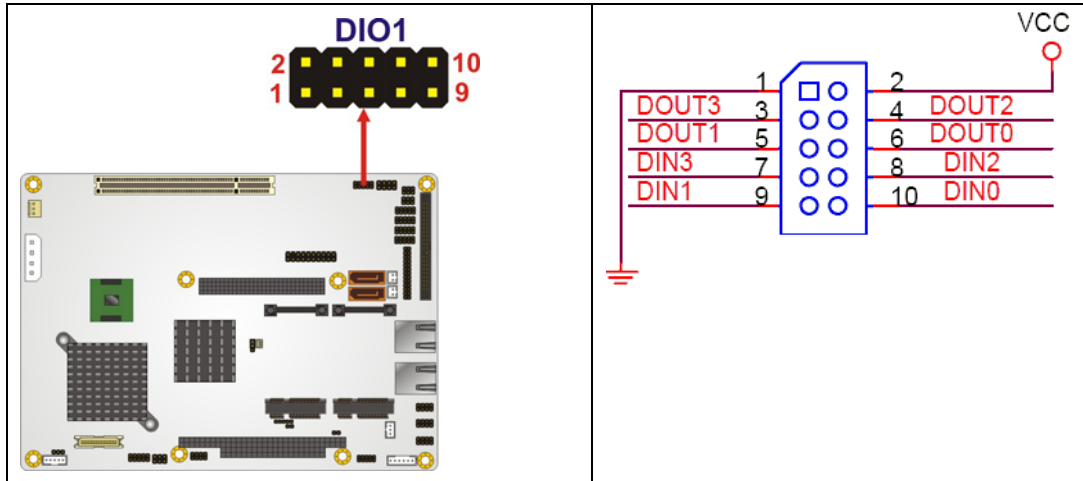

Figure 4-9: DIO Connector Connector Locations
- CN Location:** See **Figure 4-9**